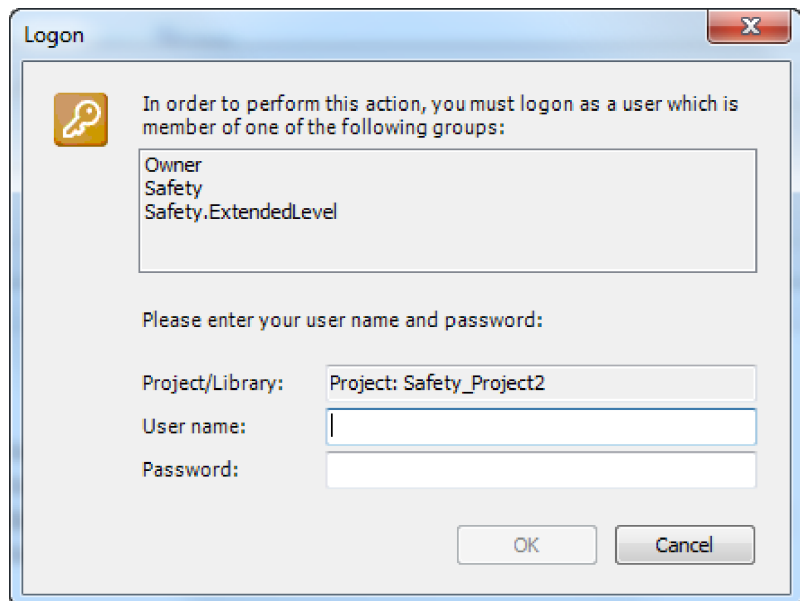

Fig. 11: Dialog: User and password query when creating a project with "Empty Safety project"
3. ▶ If *“Empty safety project”* is selected, enter the *“Current user”* in the *“Logon”* dialog (see Fig. 11). The password is empty. Click *“OK”*.